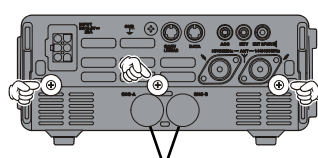

Figure 2
5. Remove the plastic cap, which is same label ("A" or "B") of the battery compartment which is the **FNB-78** installed, from the bottom cover, before turning the plastic cap so that the small project of the cap is aligned with the slot of the bottom cover (Figure 2).